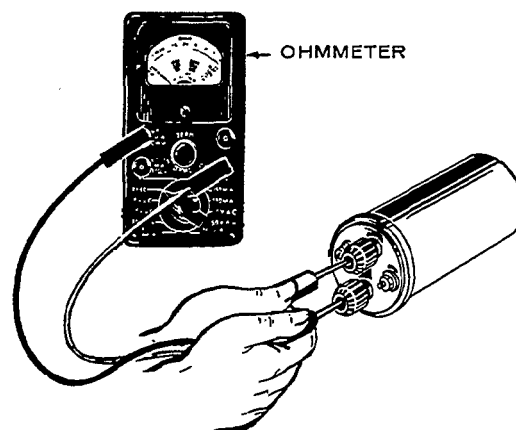

FIGURE 15. COIL TEST
3. Change resistance setting on ohmmeter. Place ohmmeter leads inside of spark plug cable holes (Figure 15). Secondary resistance should read 12,600 - 15,400 ohms.